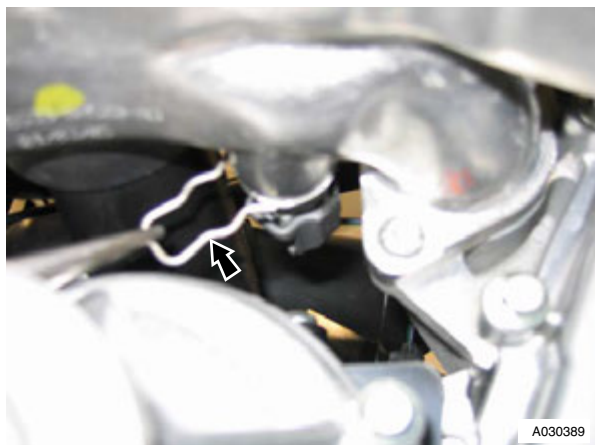

Figure 4
8. Remove sensor attachment clip (refer to Figure 4).